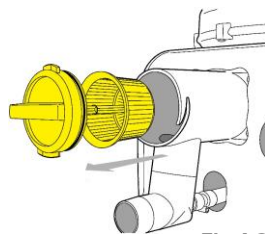

Fig 6.3
- ▶ Pull out the filter screen. (Fig 6.3)